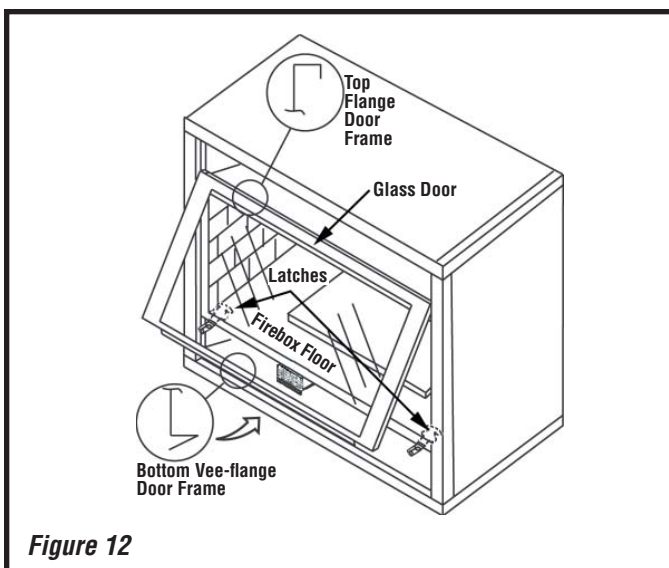

Figure 12
- 2) Swing the bottom of the door outward (see **Figure 12**) and lift it off of firebox top. Set door aside in a safe place.